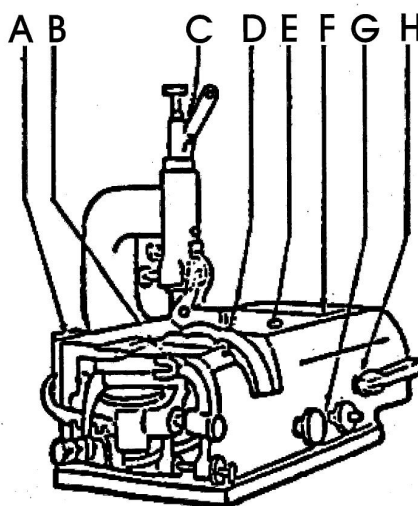

Fig.2
(2) After installation of the machine, it is necessary to lubricate the portions which Illustrated in Fig. 2. please do not operate the machine until the whole portions are dull lubricated.
(Fig.2)